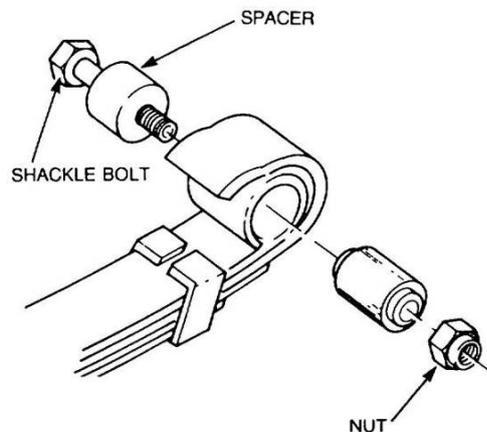

Figure 124 Removal of the Shackle Bolt (Fixed End)
- e. Remove the locknut and spacer from the fixed shackle bolt. Using a suitable drift, drive the shackle bolt through the shackle bush and the fixed shackle mounting (Figure 124). Discard the locknut.